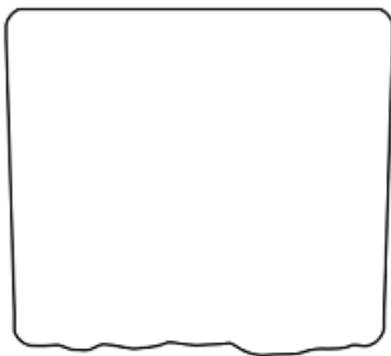

Fig. 7: Aperture with mill radius and smoothing
4. figure 7: shows a resulting aperture shape with a large mill radius applied to the aperture creation parameters and smoothing options using the `compute_smoothed_aperture` function.